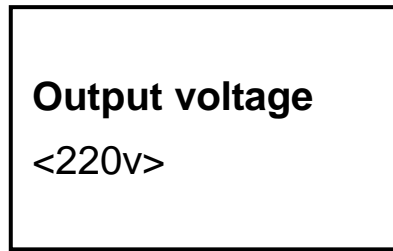

Fig. 4-11
- 1). Press  button or  button to choose “Output voltage” (Fig. 4-11). Press button  and the cursor will flash on “<220v>”.